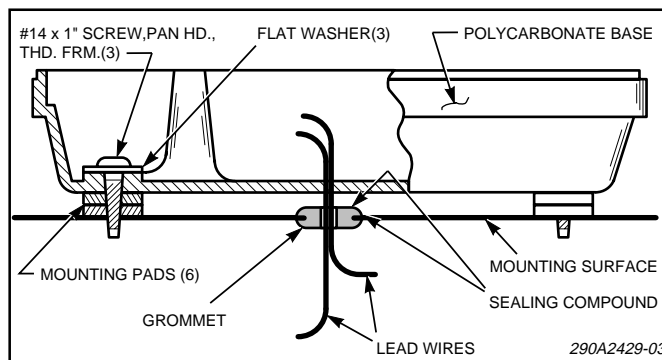

Figure 1.
6. Carefully position the light over the mounting holes and wire routing hole. Inspect the installation to determine if the base of the light is level. If necessary, place one or more mounting pads between the base and the mounting surface at the mounting hole locations (see figure 1). Temporarily place the light aside.
11. See figure 1. Secure the base to the mounting surface with three thread-forming screws, flat washers, and mounting pads as determined in step 6 above.